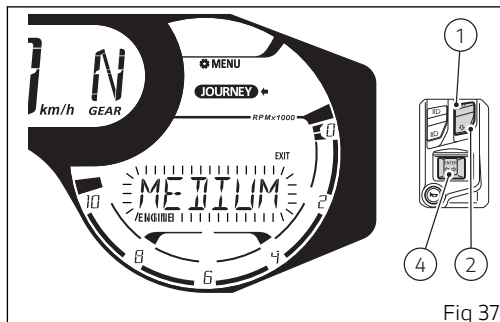

Fig 37
When entering the function, the currently set engine power ("HIGH", "MEDIUM" or "LOW") starts flashing (Fig 37). Use buttons (1) and (2) to cyclically select the values "HIGH", "MEDIUM", "LOW" and "EXIT" with flashing frame.